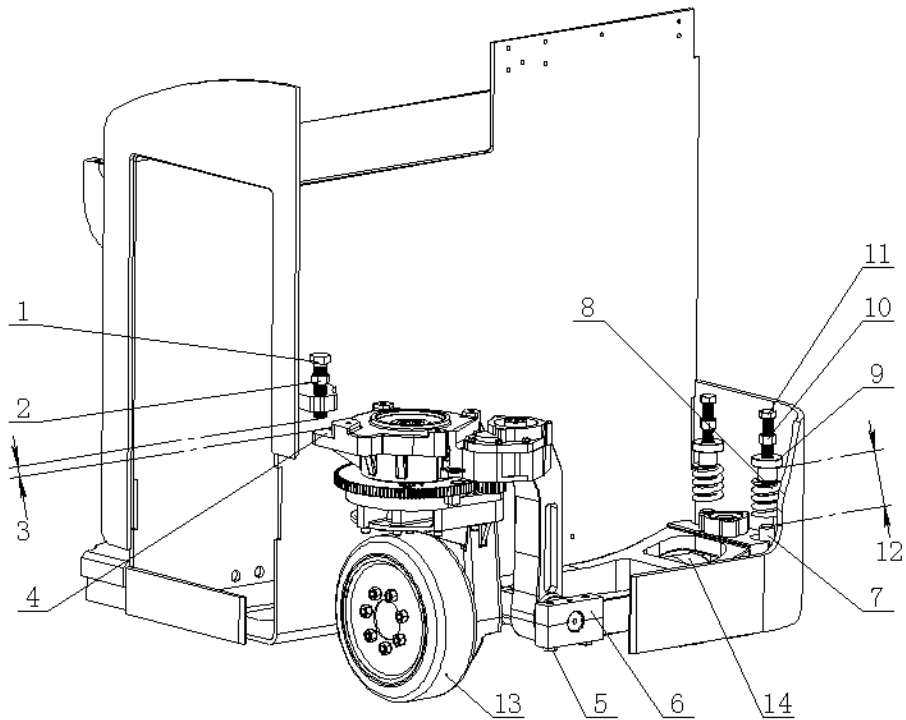

Figure 4-7-1 Diagram for frame adjusting
See figure 4-7-1, when changing the drive wheel (13), please make sure that the material and size of drive wheel meet relative requirements. For more information, please refer to the truck plate.
See figure 4-7-1, check spring (8) and supporting wheel (14). Change if necessary.